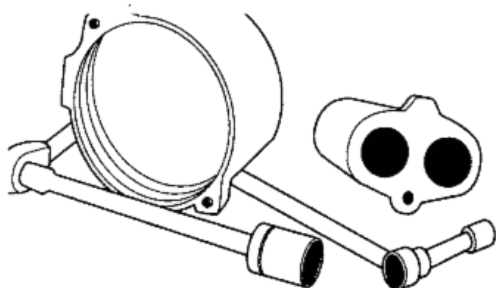

Figure 27: Remove Nozzle
6. The nozzle on 1/2 HP models can be removed from pump case with any standard 1-1/4" socket wrench with an extension (Figure 27). On 3/4 and 1 HP models the nozzle is part of the pump body. When replacing nozzle and venturi, be sure they are tight against the shoulder. Use care to not cross thread. If nozzle is not fully engaged in case, flow will be blocked by venturi entrance.